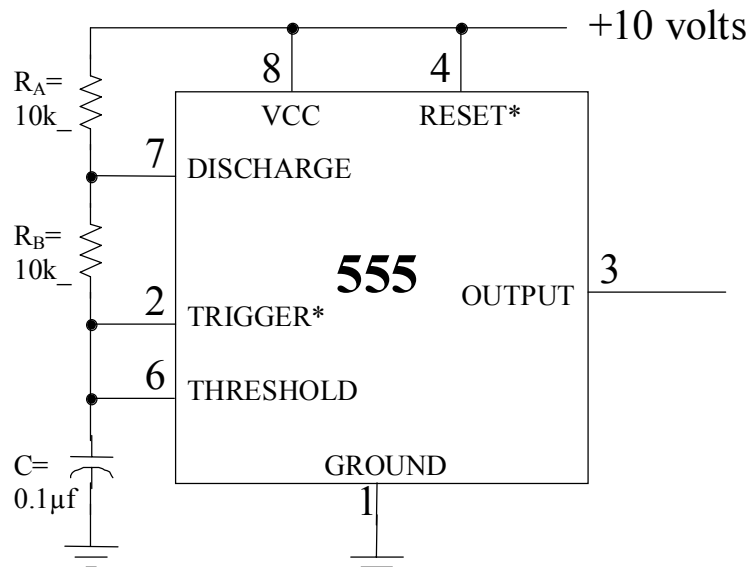

Figure 5. 555 relaxation (astable) oscillator
The 555 and similar chips have made the design of relatively complex circuits such as oscillators relatively easy. An RC circuit connected to the 555 as shown in Figure 5 alternately charges and discharges. The frequency of these changes (the oscillation frequency) is claimed by the manufacturer to be approximately given by
- (a) Construct the 555 relaxation oscillator shown in Figure 5.
- (a) Construct the circuit from Figure 5, replacing R_A with a $22k\Omega$ resistor and replacing R_B with a short circuit (a wire).